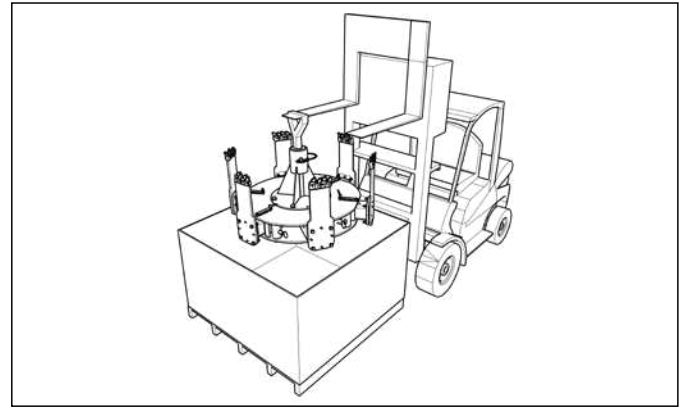

Figure 6. Lifting Six Shooter
1. Remove the items from the top of the shipping container. Pull the hitch pin out of the Top Drive on the Six Shooter and insert the lifting strap into the hole in the top of the Drive Unit. Reinsert the hitch pin through the strap. Loop the lifting strap onto the blades of the fork lift. See Figure 6.